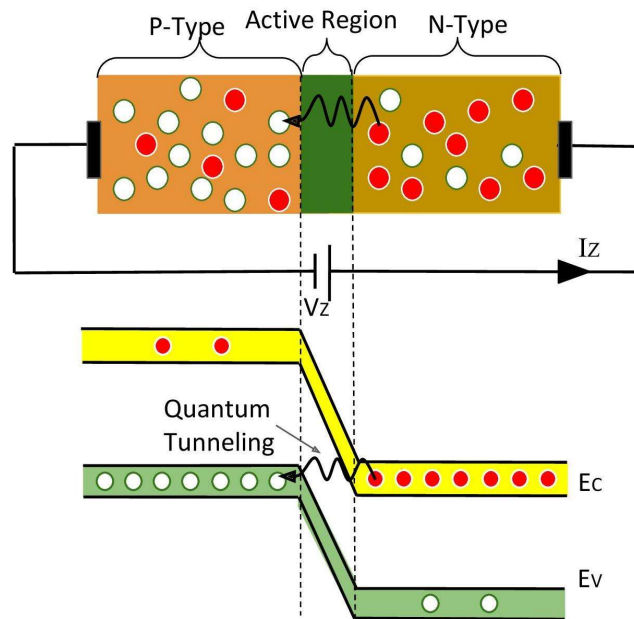

Figure 13d: Zener working
2. In a normal diode, breakdown occurs through the avalanche effect. This effect takes place when the depletion region becomes wider due to reverse biased mode as shown in *Figure 13d*.